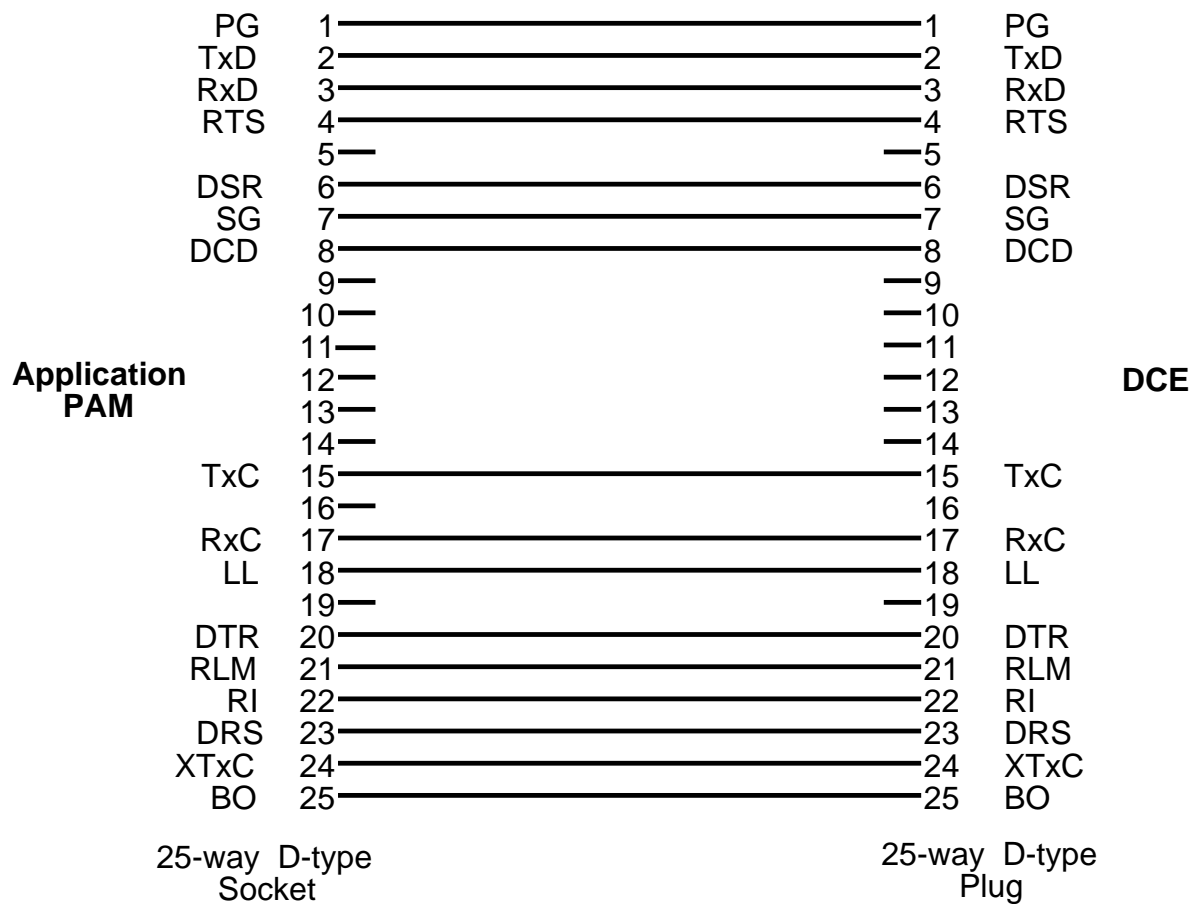

Figure B-5 Composite to V.24 DCE Cable
- (4) Application Module to V.24 DCE. Use cable X890-403111, Figure B-5.